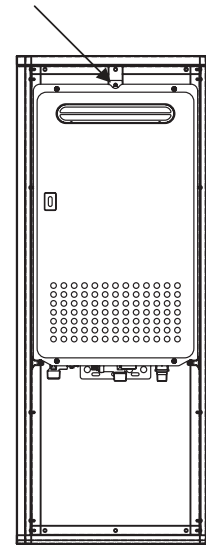

Figure 4: Location of top mounting bracket.
- Second, insert the water heater into the box by sliding the top heater bracket over the previously installed mounting screw as shown in Figure 4.